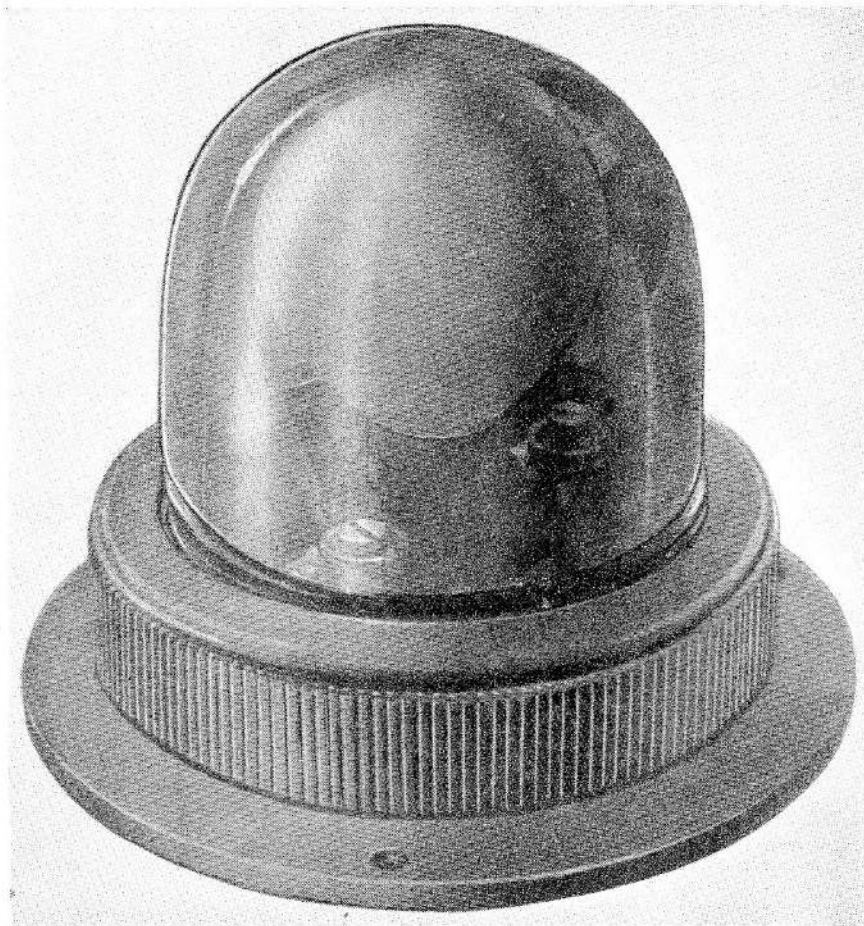

Fig. 1. Upward identification lamp, Type C
2. The lamp (Stores Ref. 5C/559), is illustrated in fig. 1 and 2. The overall height is 3½ in. and the weight is approximately 6 oz. The body of the lamp consists of a moulded base of synthetic resin compound, in which a bayonet type lamp socket is formed. A well glass, held in position by a moulded bezel ring, bears on a rubber gasket which renders the assembly weather-proof.